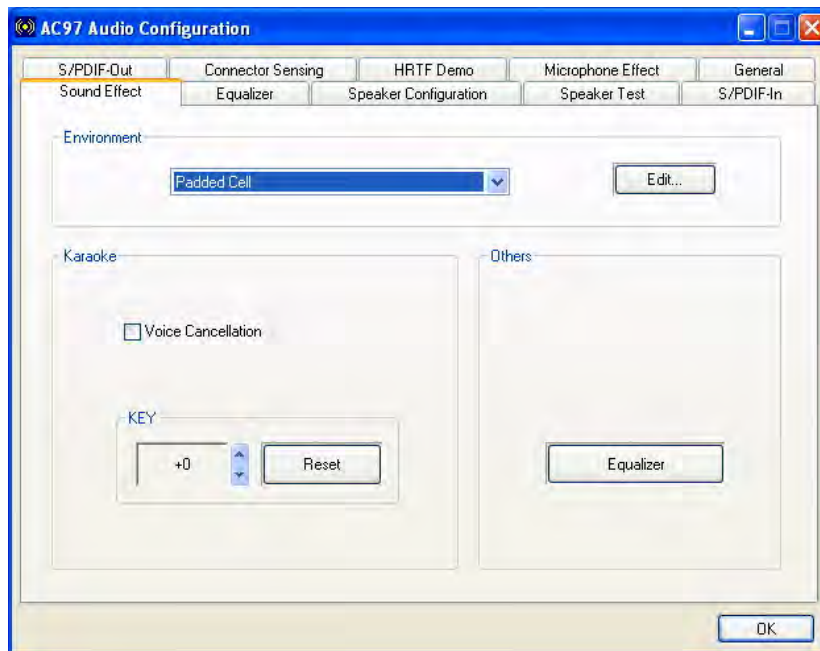

Figure 6-23: Sound Effects Manager (ALC655)
Step 8: The sound effect manager appears. (See Figure 6-23)
The Sound Effect Manager shown in **Figure 6-23** is for the RealTek ALC655 audio CODEC. Different CODECs may have different sound manager appearances.
The **Sound Effects Manager** enables configuration of the items listed below. To configure these items click the corresponding menu tab in the **Sound Effects Manager** in **Figure 6-23**.